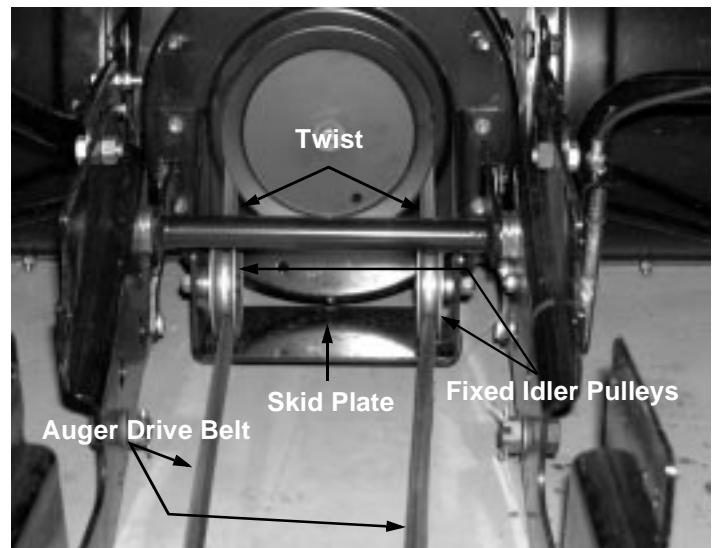

Figure 2
9. Place the belt around the auger drive pulley making certain belt is twisted properly and route the belt on the bottom side of the fixed idler pulley and secure to the left hand side of the skid plate with hardware provided. Repeat this procedure for the right idler pulley assembly. See Figure 2.